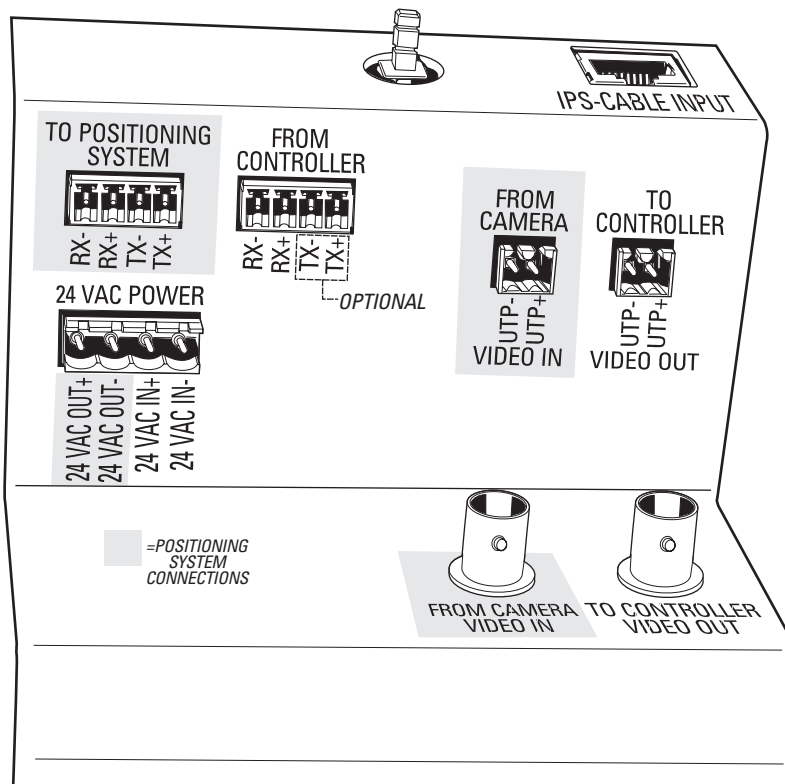

Figure 3. IPS-RDPE-2 Connections
6. Run conduit with wiring from the positioning system to the IPS-RDPE-2. To connect the wires to the IPS-RDPE-2, refer to Figure 3 or to the label attached to the inside lid of the data port box, and do the following:
7. Run conduit with wiring from the power supply and wiring from the controller at the head-end to the IPS-RDPE-2. To connect the wires to the IPS-RDPE-2, refer to Figure 3 or to the label attached to the inside lid of the data port box, and do the following:
4. Run conduit with wiring from the positioning system to the IPS-RDPE-2. To connect the wires to the IPS-RDPE-2, refer to Figure 3 or to the label attached to the inside lid of the data port box, and do the following:
5. Run conduit with wiring from the power supply and wiring from the controller at the head-end to the IPS-RDPE-2. To connect the wires to the IPS-RDPE-2, refer to Figure 3 or to the label attached to the inside lid of the data port box, and do the following:
Refer to Figure 3 for a layout of the data port box connectors.